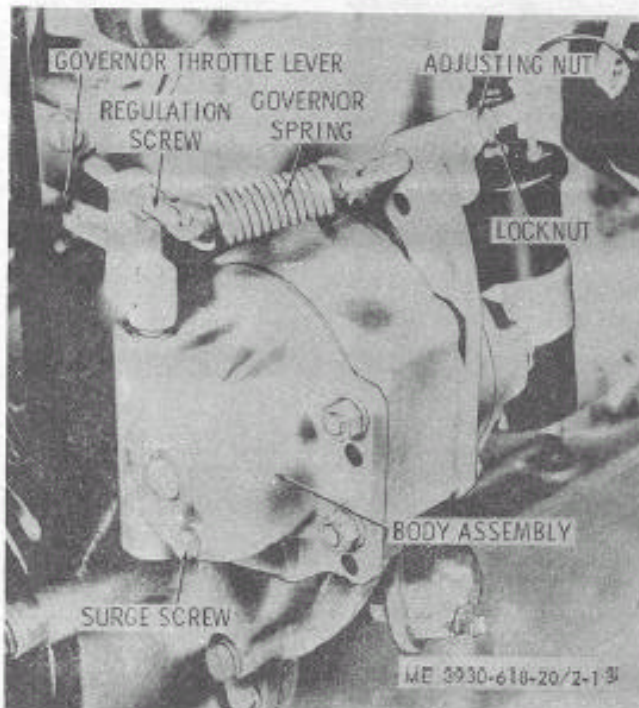

Figure 2-13. Governor adjustments.
(1) Inspect for general mechanical defects and restricted linkage movements.
(2) Inspect the high speed spring for corrosion, damage, or wear. Replace a defective spring.
(3) Attach a tachometer to the engine (para 2-14j) and observe engine speed with the throttle fully open.
(4) Engine speed observed in (3) above, should be approximately 2,200 rpm and there should be no tendency to hunt (surge). Make necessary adjustments as outlined in *b* below.
*b. Adjustments.* Refer to figure 2-13 and make adjustments as follows: